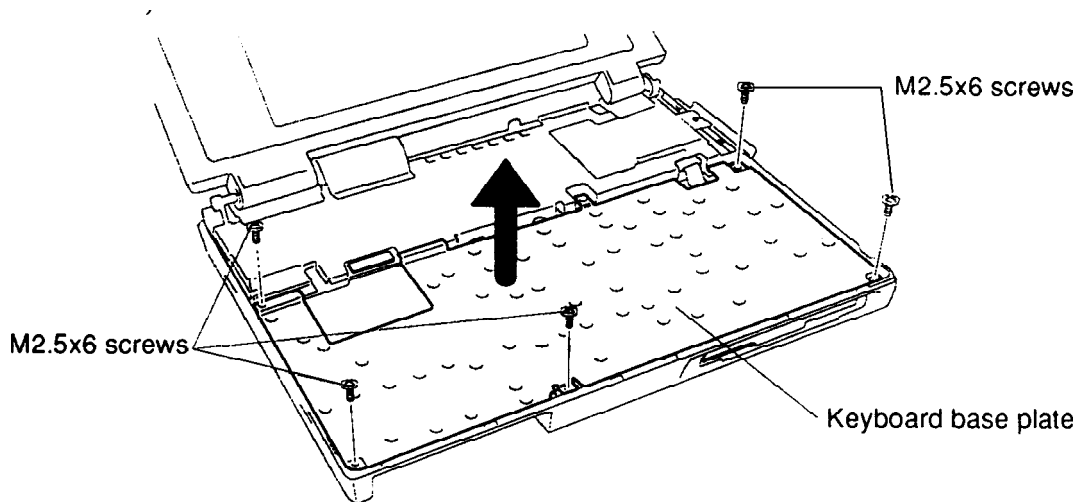

Figure 4-9 Removing the Keyboard Base Plate
To remove the T1900/T1900C's hard disk drive and backup battery, follow the steps below and refer to Figures 4-9 through 4-12.
4. Remove the **five M2.5x6 screws** securing the **keyboard base plate** to the bottom cover and lift off the plate (Figure 4-9).
To install the T1900/T1900C's hard disk drive and backup battery, follow the steps below and refer to Figures 4-9 through 4-13.
7. Set the **keyboard base plate** in place and secure it with the **five M2.5x6 screws** (Figure 4-9).